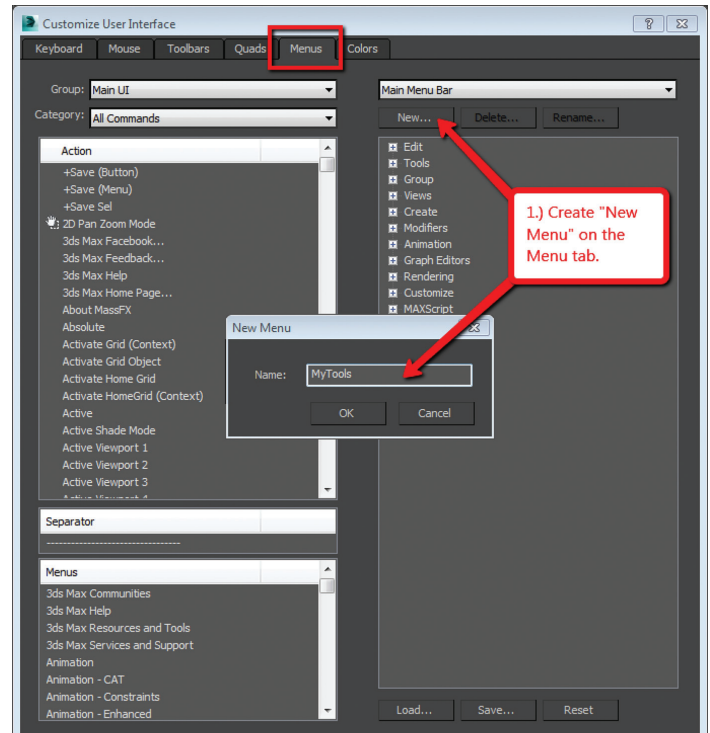

Figure 10 – Creating a new drop down menu
- 1) Create a New Menu and give it a name (see Figure 10).